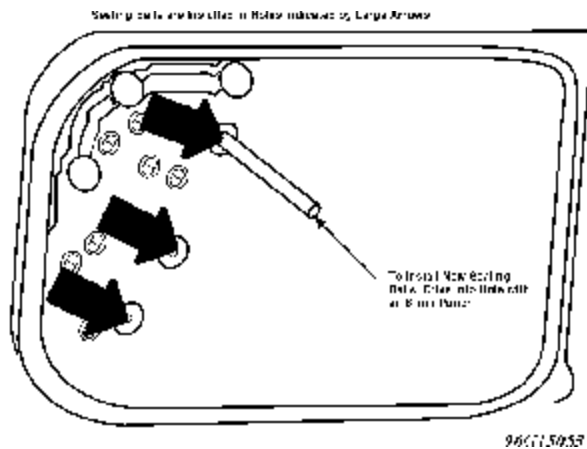

Fig. 16: Sealing Balls in Valve Body Transfer Plate
2) Check all valve body springs for damage or collapsed coils. Some transfer plates are equipped with 3 sealing balls. See Fig. 16. If transmission will not shift into 3rd gear, trouble may be caused by missing sealing ball.